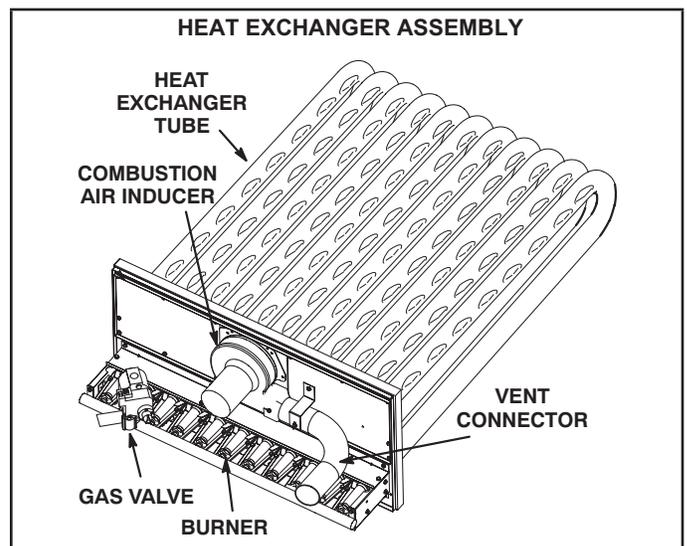

FIGURE 27
- 3 - Remove and retain screws securing combustion air inducer to flue box. Remove and retain two screws from bracket supporting vent connector. See FIGURE 27.